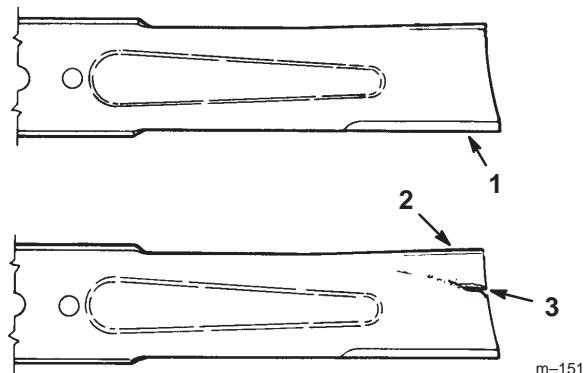

Figure 33
1. Inspect the cutting edges (Fig 33). If the edges are not sharp or have nicks, remove and sharpen the blades. Refer to Sharpening the Blades on page 31.
2. Inspect the blades, especially the curved area (Fig. 33). If you notice any damage, wear, or a slot forming in this area (item 3 in Fig. 33), immediately install a new blade.